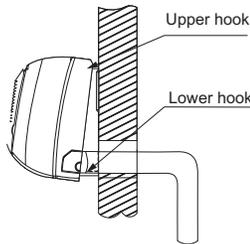

Fig. 15 – Indoor Unit Installation
8. Push lower part of indoor unit up on wall, then move indoor unit from side to side, up and down to check if it is hooked securely (see Fig. 15).